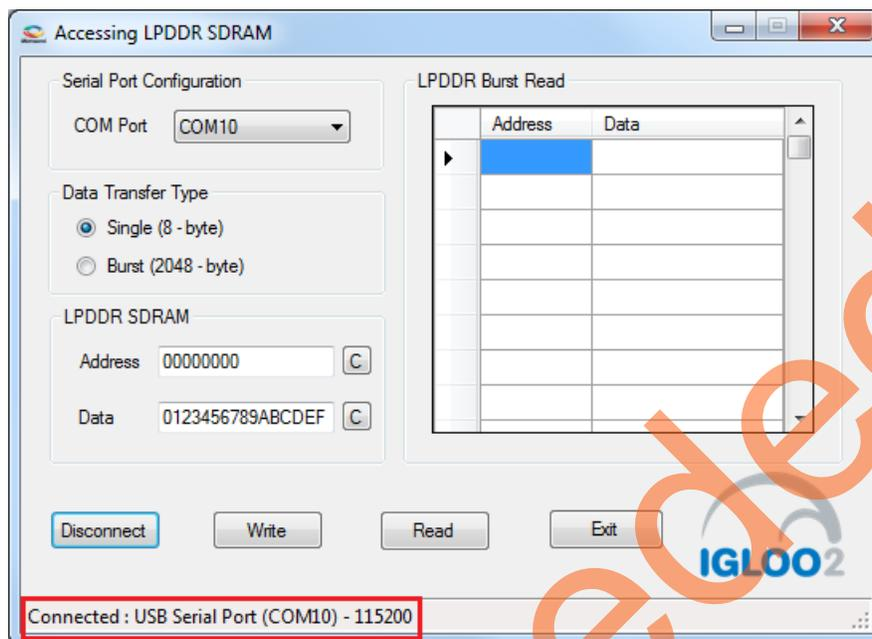

Figure 20 • IGL2\_MDDR\_Demo – Connection Status
3. Click **Connect**. The connection status along with the COM Port and Baud rate is shown in the left bottom corner of the screen. Figure 20 shows the connection status of the utility.